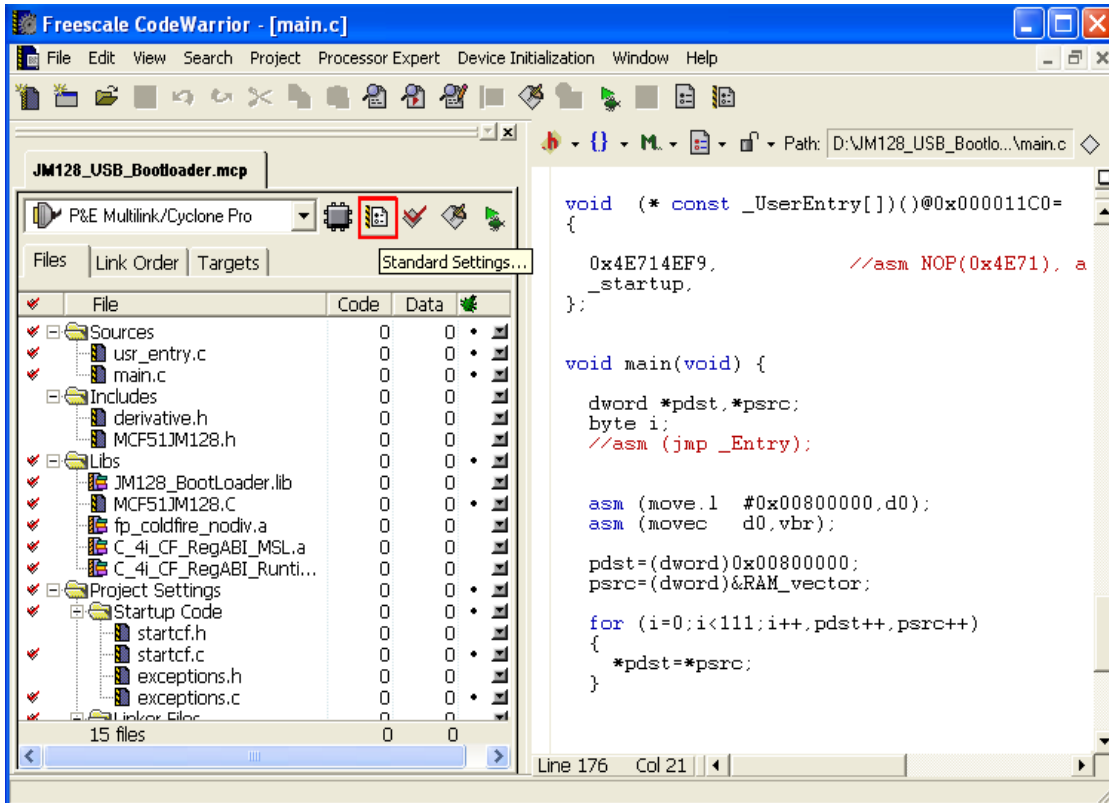
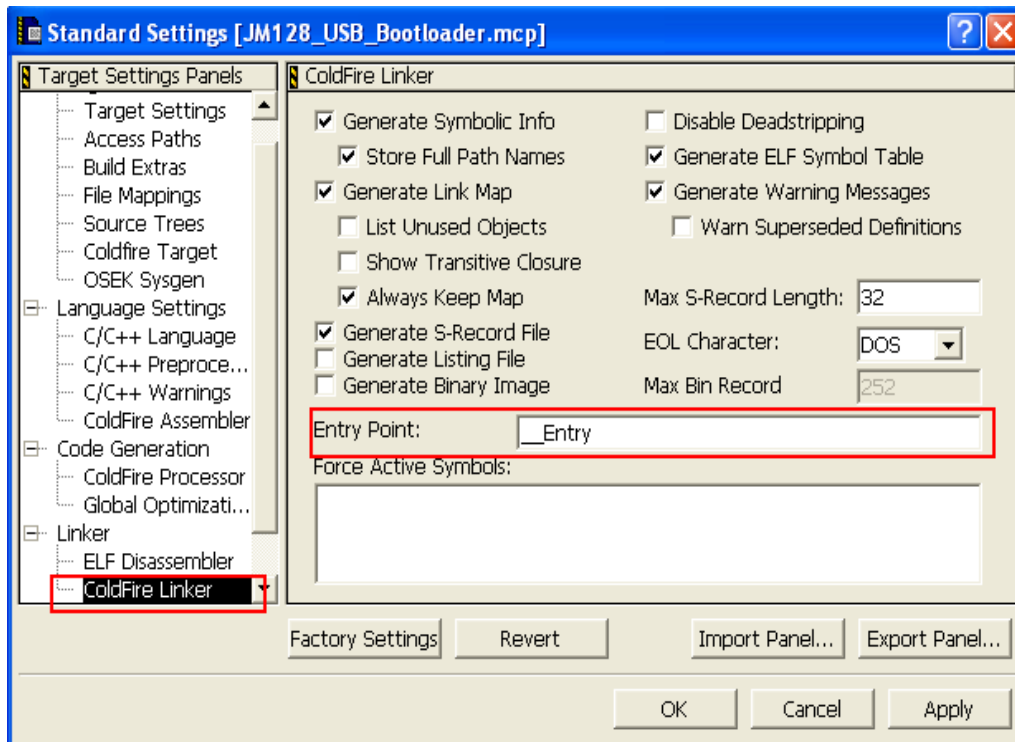

Figure 10. Open Standard Settings Window
Figure 11. Set Entry Point
2. Modify the ColdWarrior standard settings. Click Standard Setting (Figure 10) to open the dialog box in Figure 11.